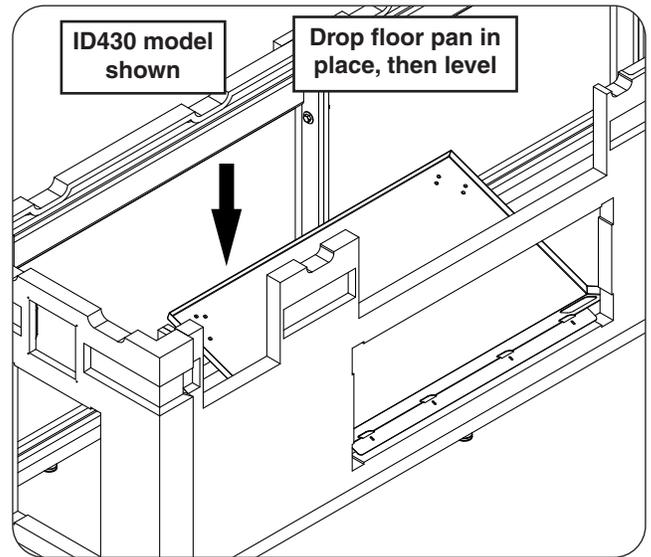

Fig. 12-2 Place floor pan
1. Place floor pan into the access door cutout as shown (see Fig. 12-2).